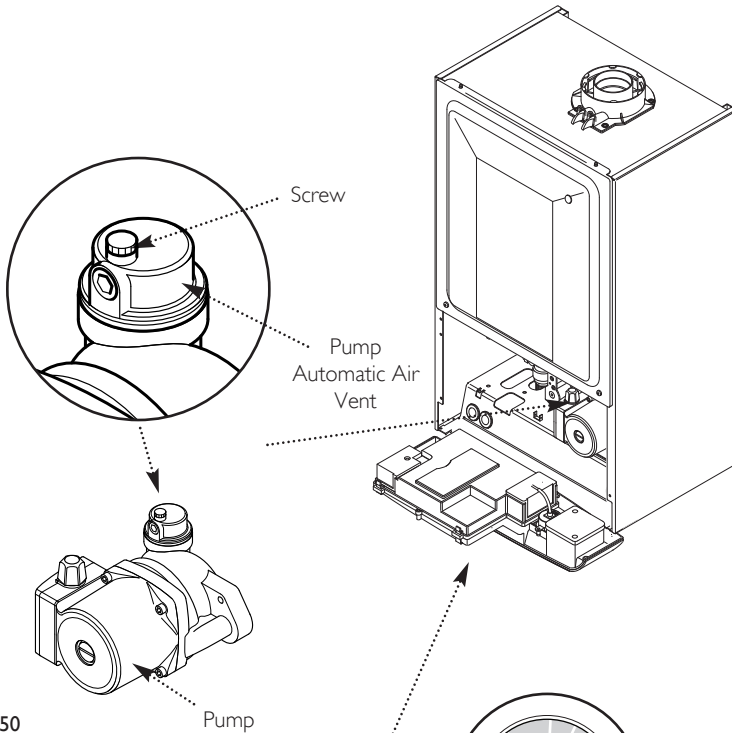

Fig. 50
4. Open the screw on the automatic air vent on the pump body (Fig. 50).